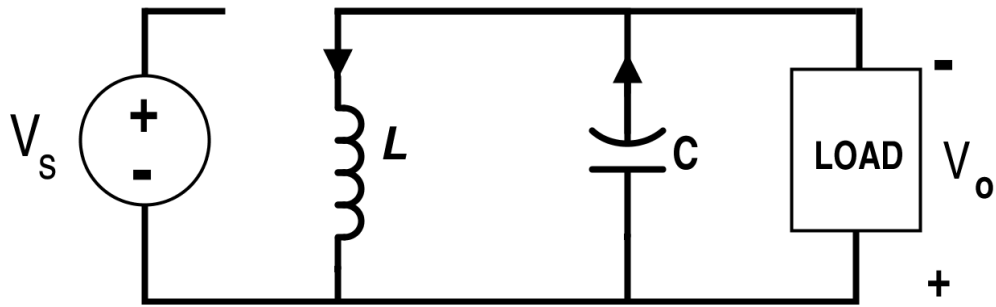

Fig. 6.11- Buck-boost converter circuit when switch S is off (Mode-II)
- Again the operation of the converter can be analyzed using the two topologies resulting from the operation of the switch as shown in Fig. 6.10 and Fig. 6.11.